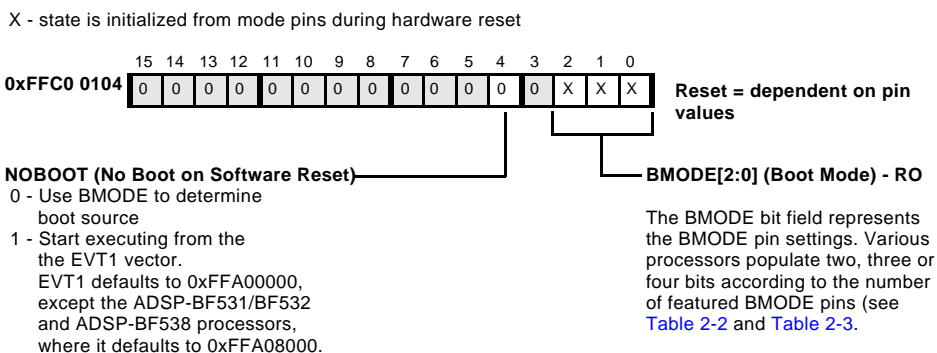

Figure 2-16. System Reset Configuration Register
2. Checks whether the `RESET` was a software reset and, if so, whether to skip the entire sequence and jump to the start of L1 memory (`0xFFA0 0000` for ADSP-BF533/BF534/BF536/BF537/BF539 processors; `0xFFA0 8000` for ADSP-BF531/BF532/BF538) for execution. The on-chip boot ROM does this by checking the `NOBOOT` bit (bit 4) of the system reset configuration register (`SYSCR`). See Figure 2-16. If bit 4 is not set, the on-chip boot ROM performs the full boot sequence. If bit 4 is set, the on-chip boot ROM bypasses the full boot sequence and jumps to the start of L1 memory.